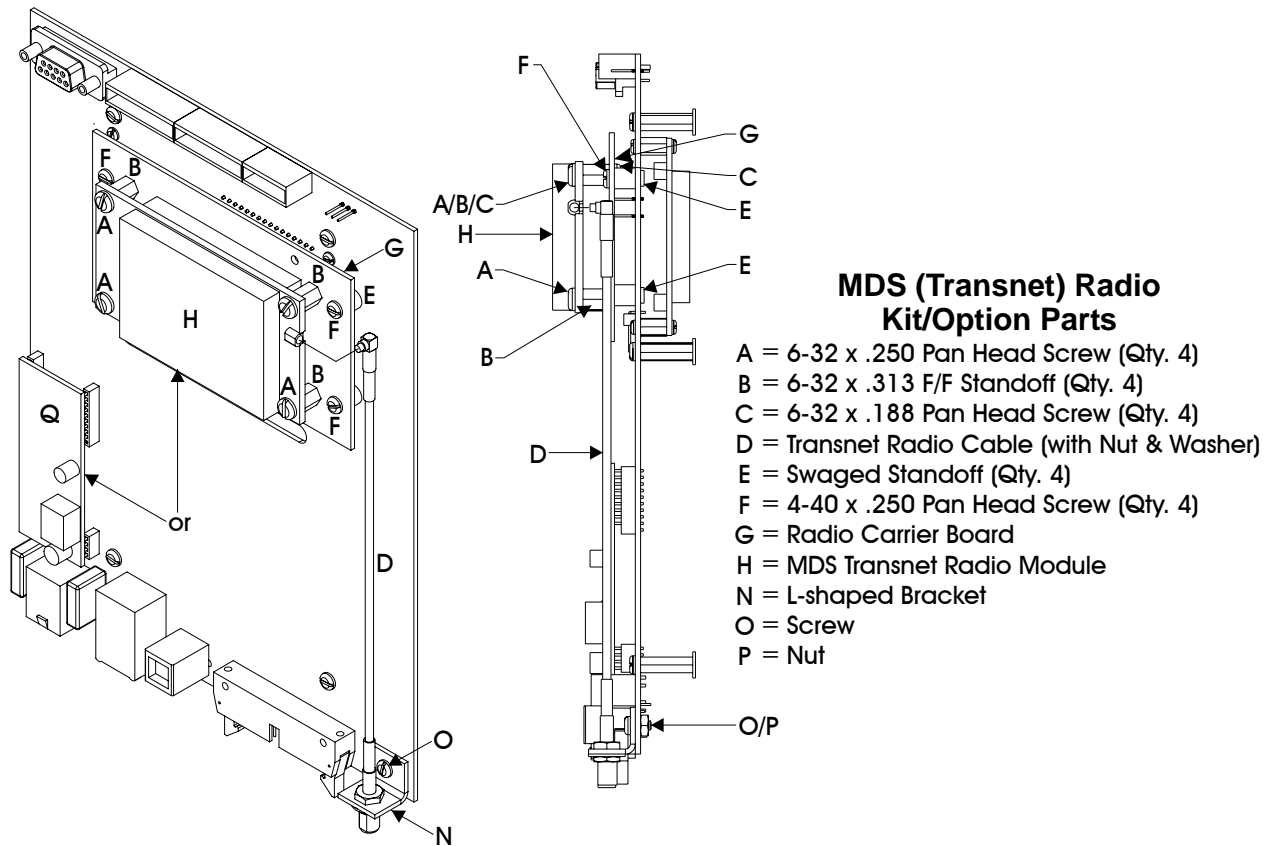

Figure D3 - MDS Transnet OEM Radio Installation Diagram
- 6-32 x .250" Pan Head Screw (Qty. 4) - Fig. D3 Reference = A
- 6-32 x .313" F/F Standoff (Qty. 4) - Fig. D3 Reference = B
- 6-32 x .188" Pan Head Screw (Qty. 4) - Fig. D3 Reference = C
- Transnet Radio Cable (with Nut and Washer- Fig. D3 Reference = D)
- Swaged Standoff (Qty 4) - Built into CPU/System Controller Bd. - Fig. D3 Reference = E
- 4-40 x .250" Pan Head Screw (Qty. 4) - Fig. D3 Reference = F
- Radio Carrier Board - Fig. D3 Reference = G
- MDS Transnet Radio Module - Fig. D3 Reference = H
- MDS Transnet Radio Cable Mounting Hardware - Fig. D3 Reference: N = L-shaped Bracket, O = Screw and P = Nut